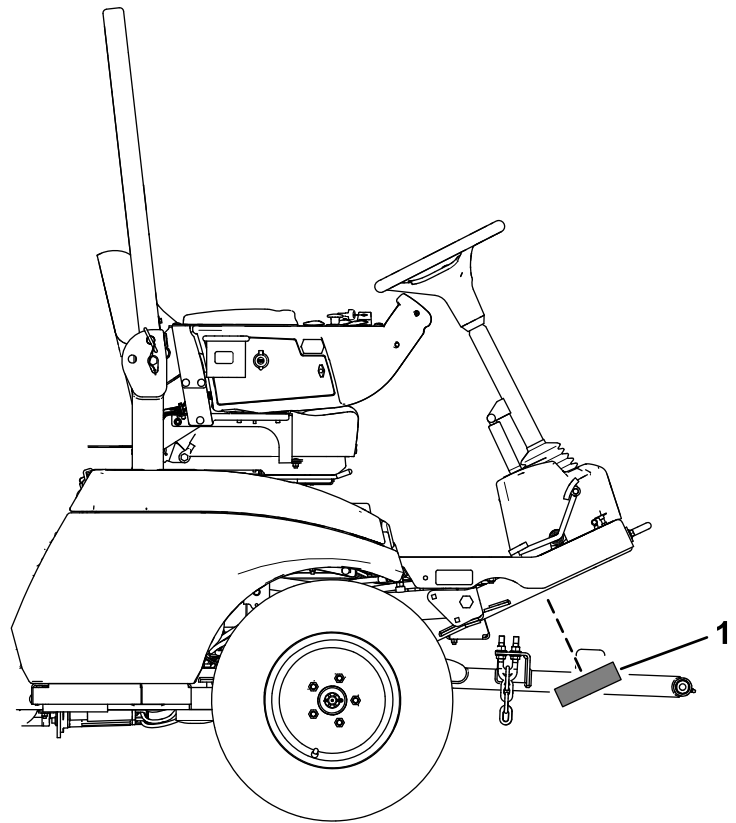

Figure 37
5. Install the plate to the frame (Figure 37).